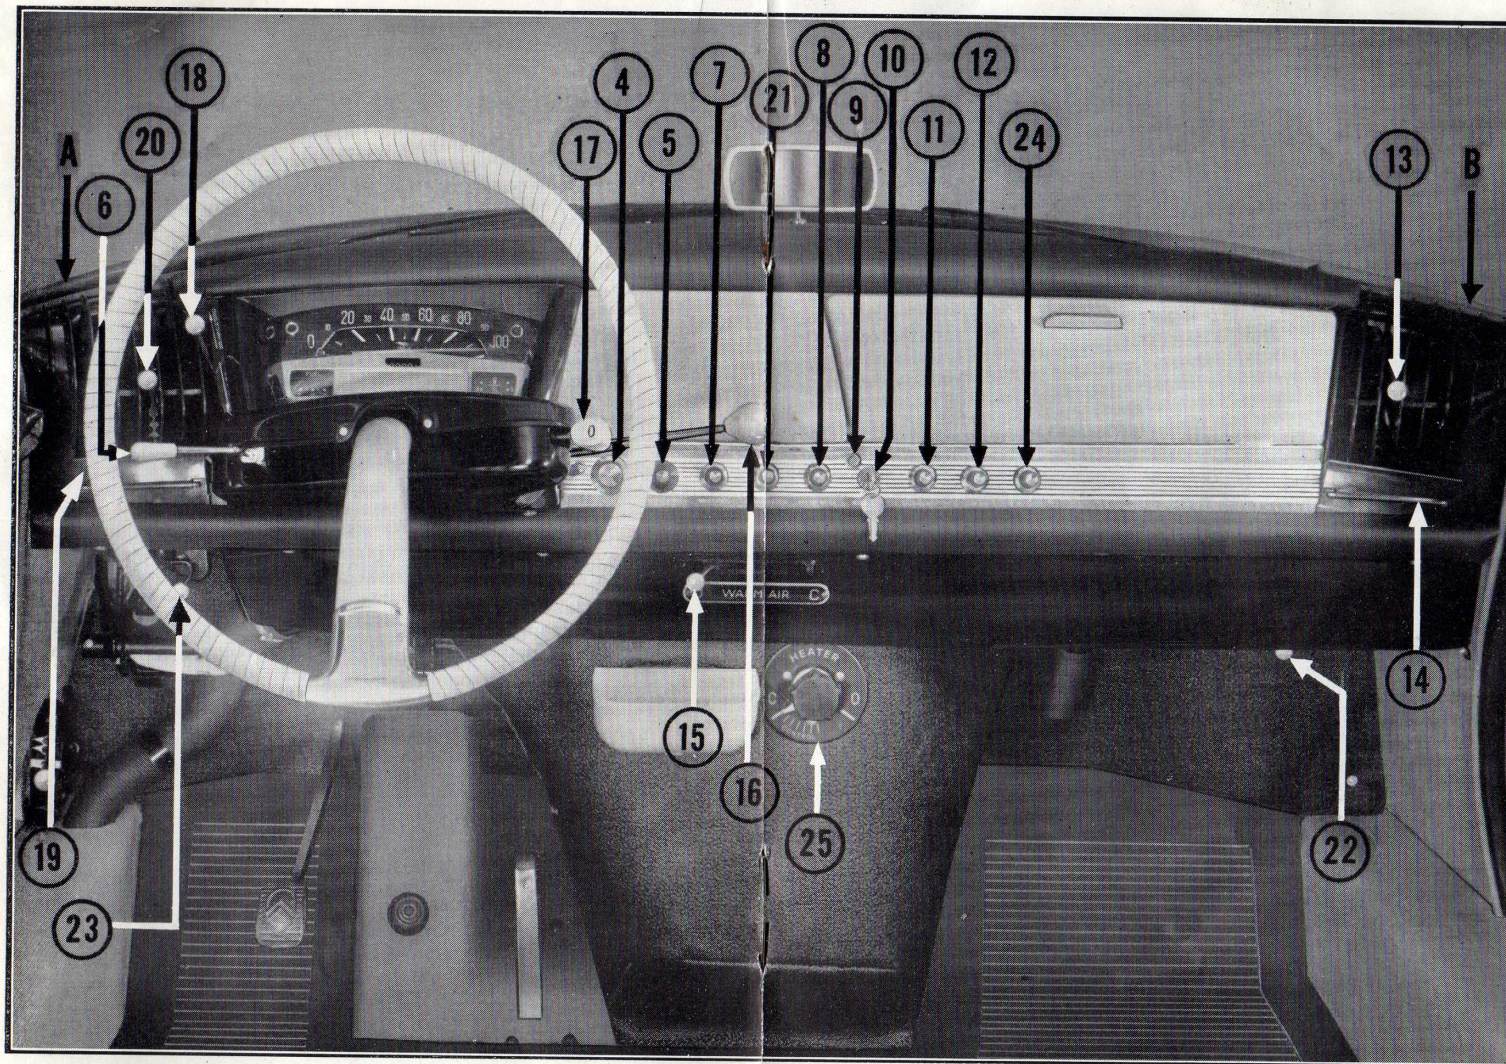

Figure 15
21. Windshield washer control — to spray water on the windshield press the knob repeatedly (see p. 32). (fig. 15 and 7).
- 22 and 23 (fig. 15). Knob for ventilation (see p. 27).
Two openings provided with baffle plates (A and B, fig. 15), located to the left and right of the dash, allow fresh air to enter the car provided a window is left slightly open.
The 2 levers **13** and **20** (fig. 15) allow the amount of air admitted to be adjusted as required.
The 2 deflectors **14** and **19** (fig. 15) allow the jets of air to be directed either towards the roof or towards the faces of the driver and passenger, whichever is desired.
Air flows in at the level of the driver's and passenger's seat when knobs **22** and **23** are open (fig. 15).
A cock **25** (fig. 15) for adjusting the heat level is located to the right of the ashtray and regulates the flow of hot water circulating in the radiator. It is fully open when turned hard to the right and closed when turned to the left. Between these two extreme positions, you can adjust the temperature of the warm air to suit yourself.
To increase the flow of warm air, in particular in the town or when at a standstill (with the engine still running), start the fan by pulling out the knob **24** (fig. 15) located immediately to the right of the choke control (1).
Check that the cock **25** (fig. 15) controlling the hot water inlet is properly open, start the engine and accelerate a few times to make sure that all the pipes are filled completely.